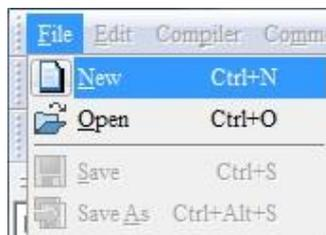

Figure 16-12
**NOTE:** Alternatively, on the **File** menu, click **New (Ctrl+N)** (see Figure 16-12).